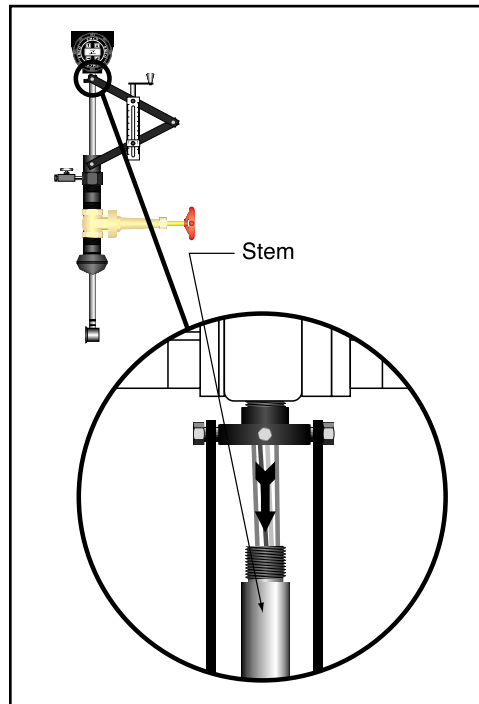

Figure 6-10. Removing the V-Bar-600 Sensor. *Unscrew the stem from the junction mount and remove the stem by pulling it out from the bottom of the meter.*
Step 4. Unscrew the stem (Figure 6-10) from the junction mount and remove the stem by pulling it out from the bottom of the meter. Replace sensor by following the steps above in reverse order.